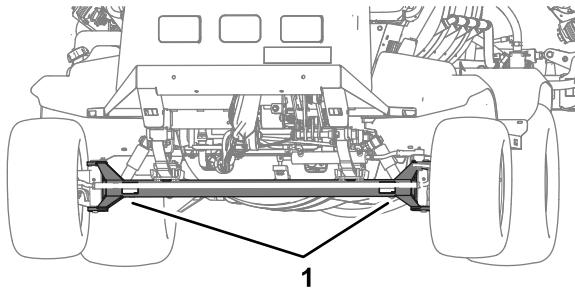
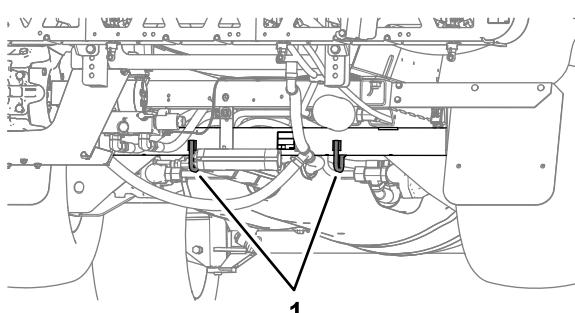

Figure 92
Figure 93
- Bind the machine securely to the transport vehicle; Figure 92 and Figure 93 illustrate the tie-down points of the machine.